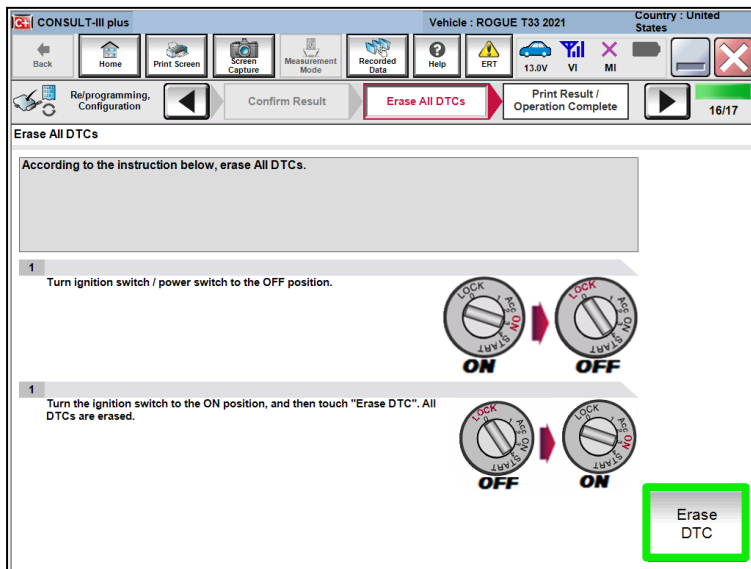
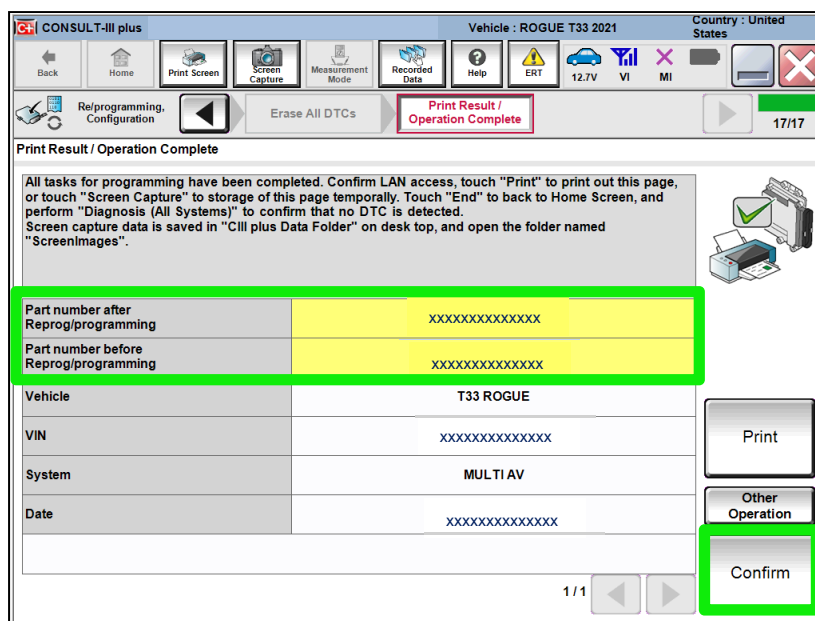
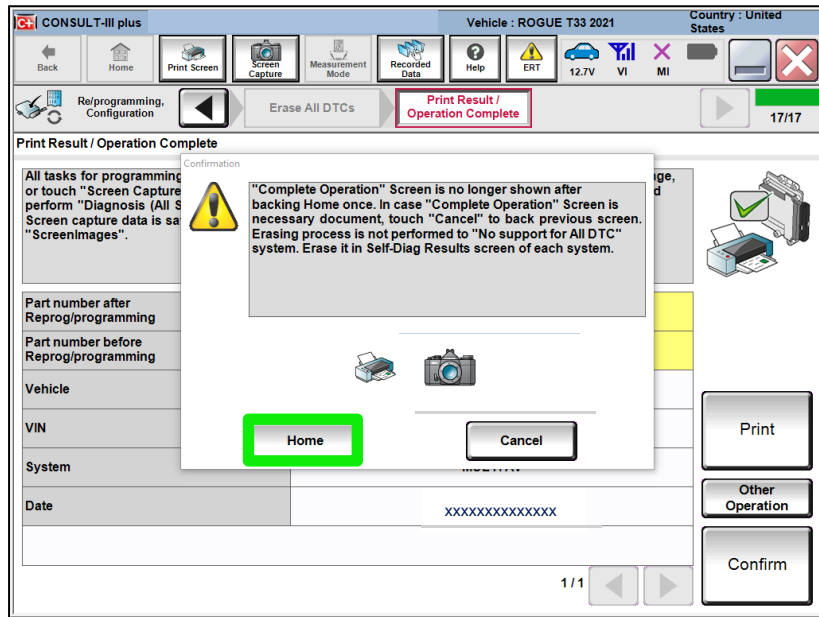

Figure 16
Figure 17
Figure 18
- Follow the on-screen instructions as shown in Figure 16, Figure 17 and Figure 18.